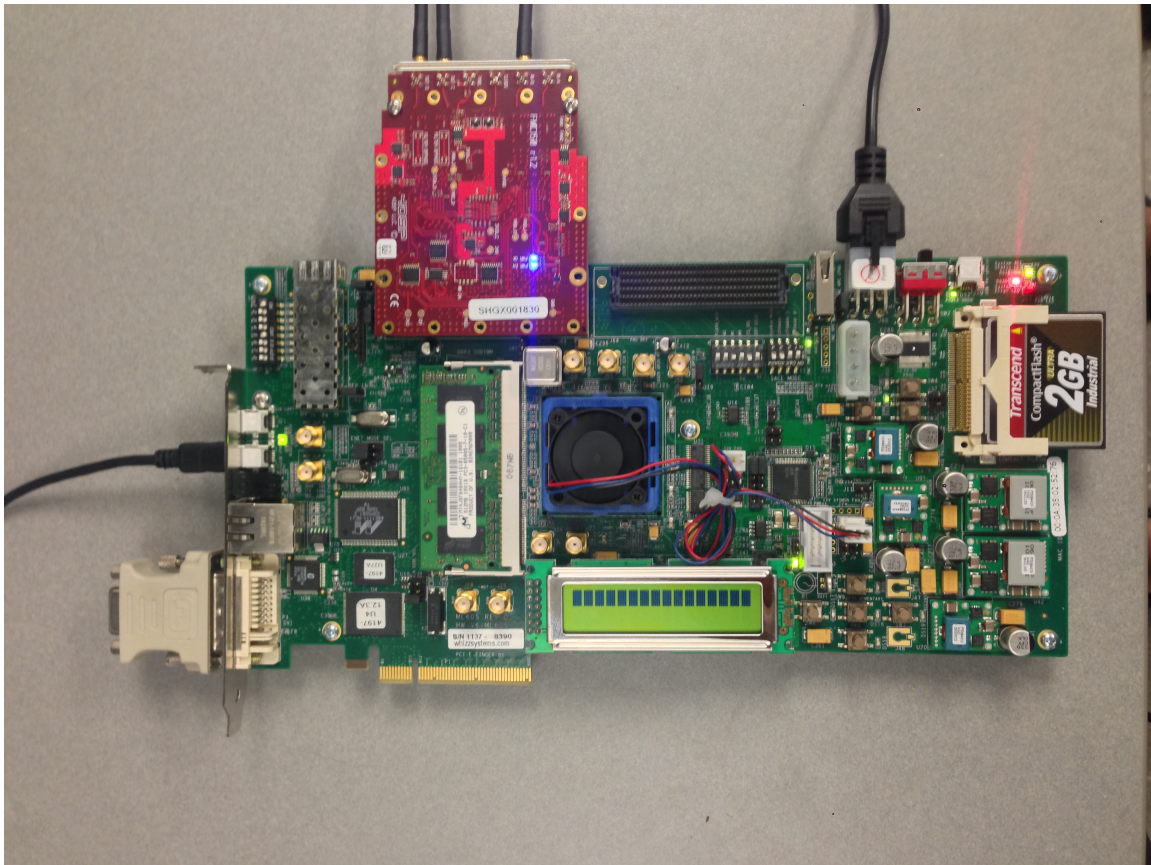

Figure 1 – ML605 and FMC-150
1. Insert the FMC-150 into LPC FMC connector (J63 on the ML605 board as shown in Figure 1).